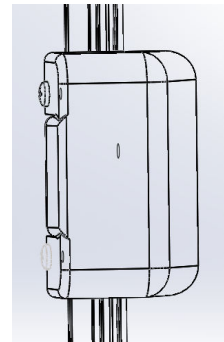

Fig. 13
2.6 fix striker plastic cover as Fig. 13.